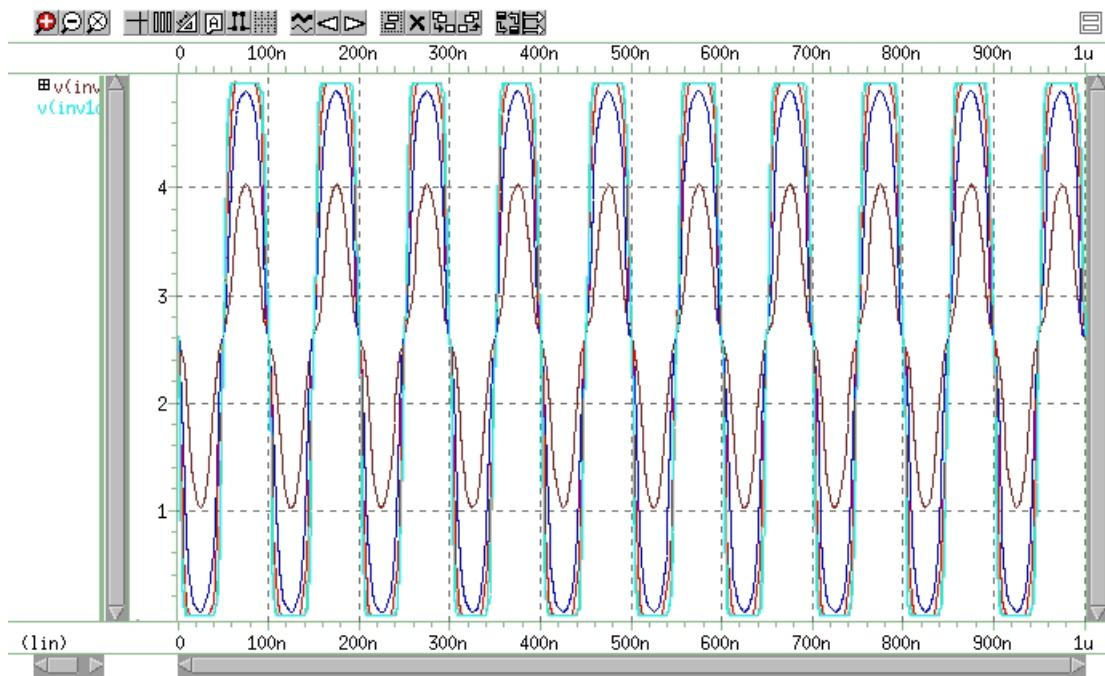
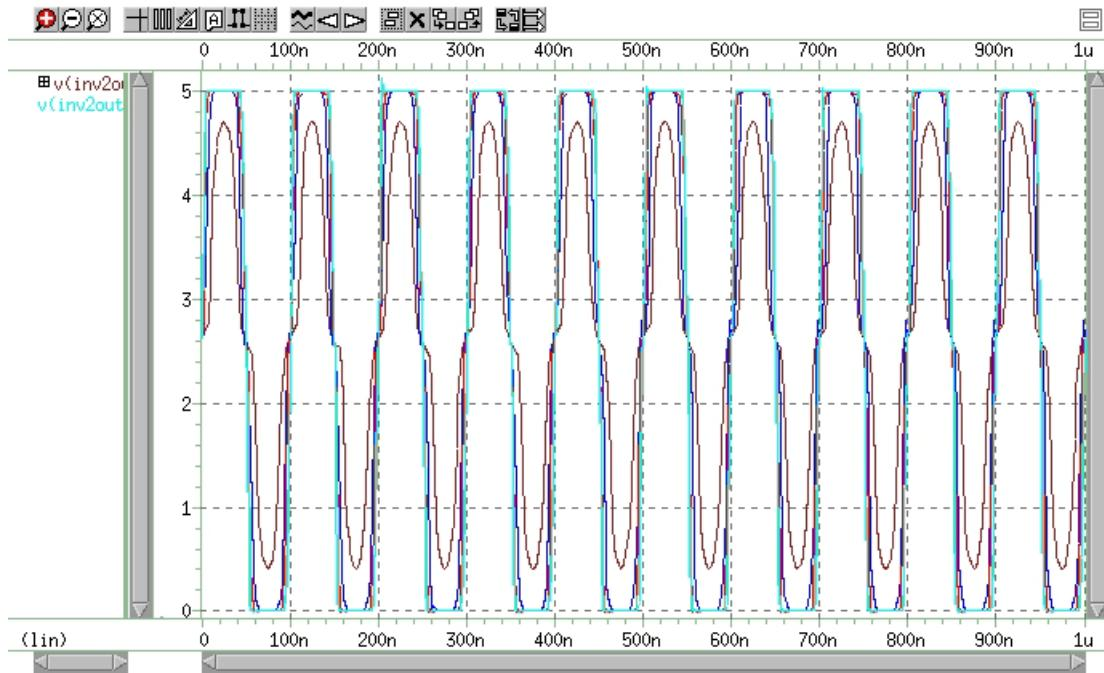

Figure 201 Plot of Voltage on Node `inv1out` vs. Time
Figure 202 Plot of Voltage on Node *inv2out* vs. Time
8. Repeat Step 6 and Step 7 to view the signals  $v(inv1out)$  and  $v(inv2out)$  (Figure 201 and Figure 202 on page 1059).